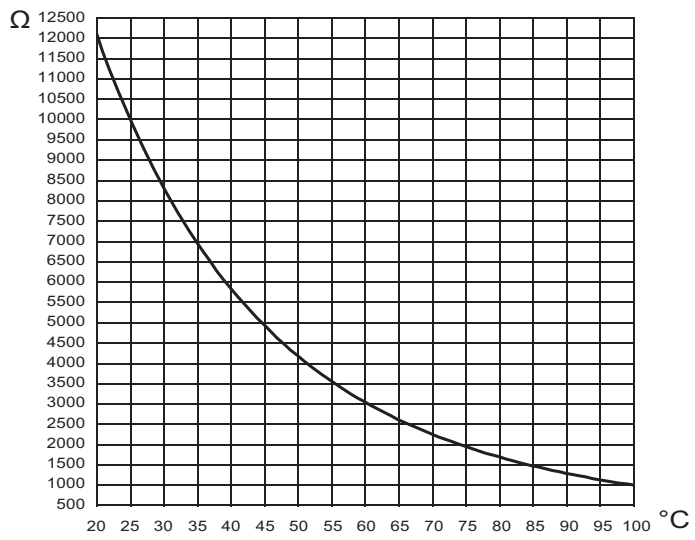

Figure 20.4
- 2 Measure the Flue temperature probe NTC electrical resistance at the ambient temperature and check it according to the graph in (Figure 20.4).